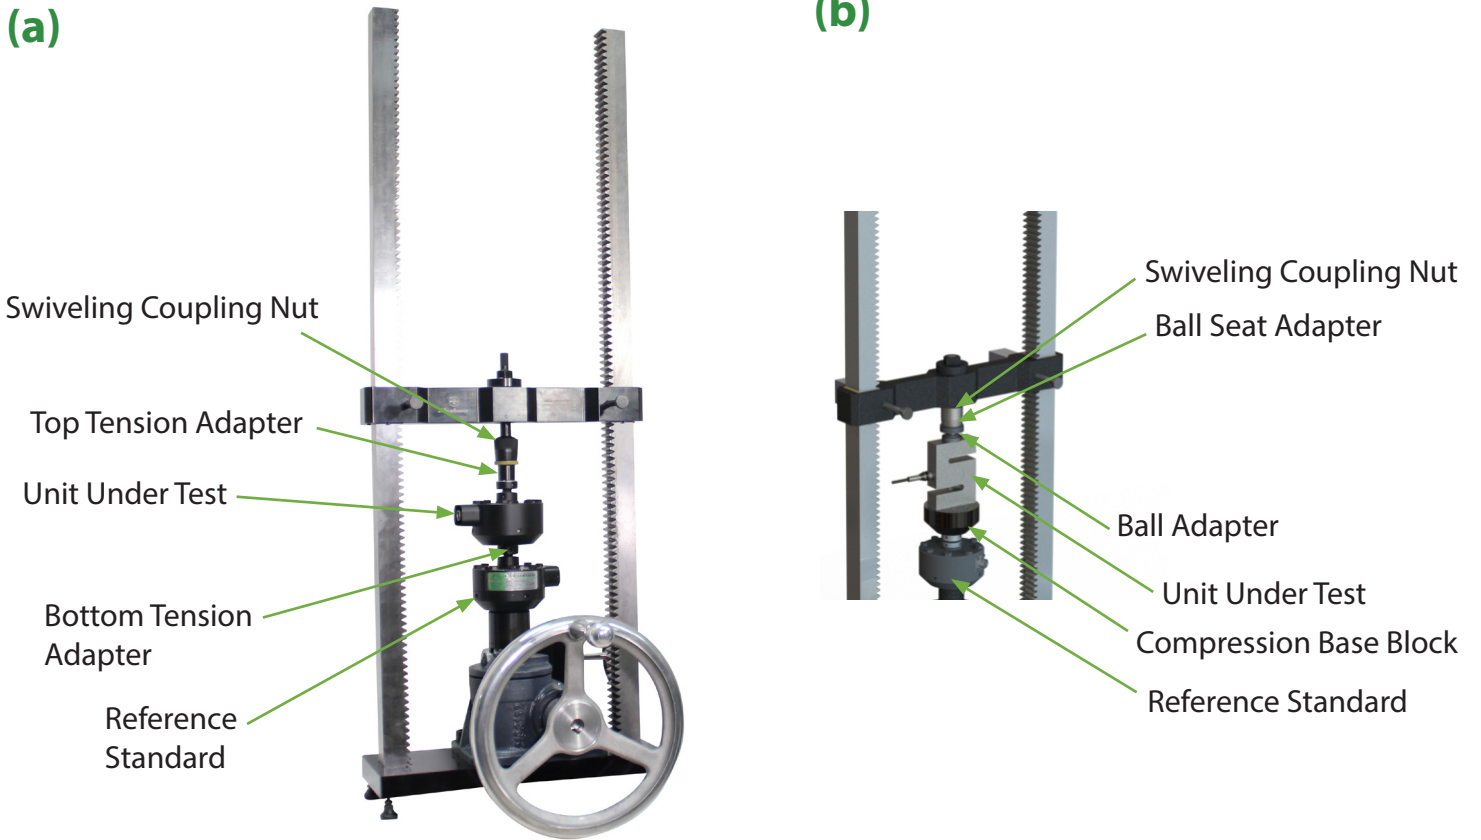

Figure 6: Calibration Setup: a) Tension b) Compression
- The quick-adjust latches on the stage beam have a critical role in load bearing capability of the Benchtop Calibrating Machine. Before starting to apply a force, check the latches to ensure that they are completely pulled out, and the holding latches are fully engaged. Figure 6 demonstrates how the engagement of the stage beam latches need to be checked.